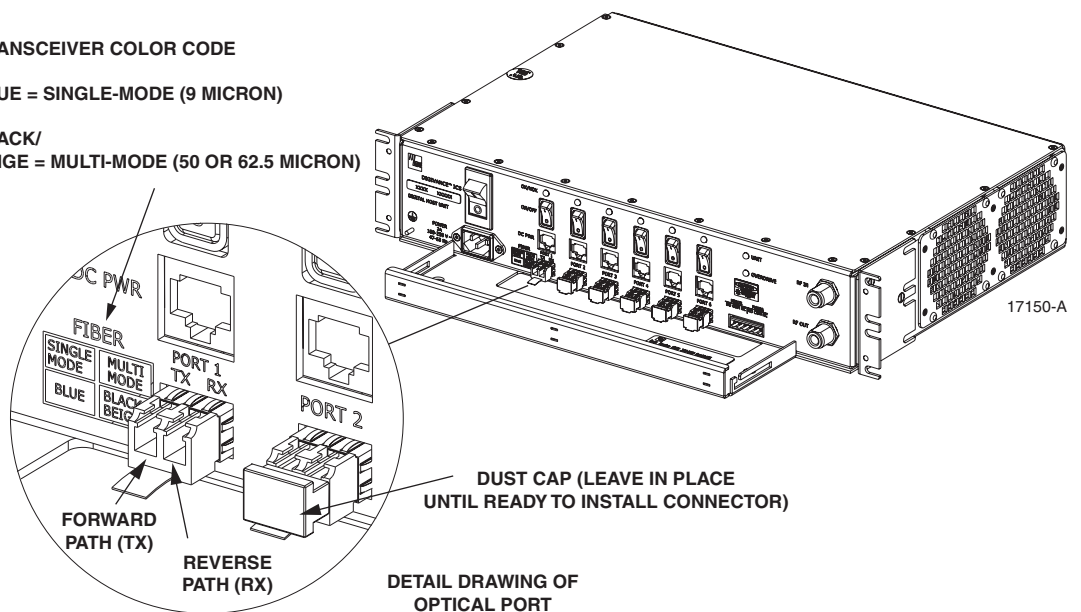

Figure 21. Optical Transceiver Designations
- **Note:** When viewing any **Port 1-6** optical transceiver from the front, the forward path port is on the left and the reverse path port is on the right as shown in Figure 21. In addition, single-mode transceivers are colored blue and multi-mode transceivers are colored black or beige. Both single- and multi-mode transceivers may be mounted on the same DHU.